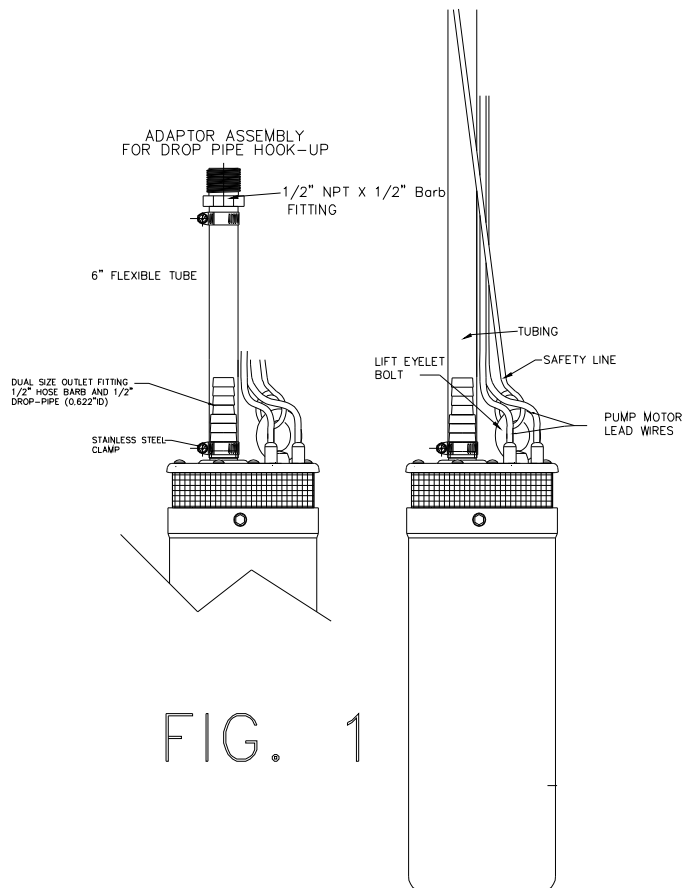
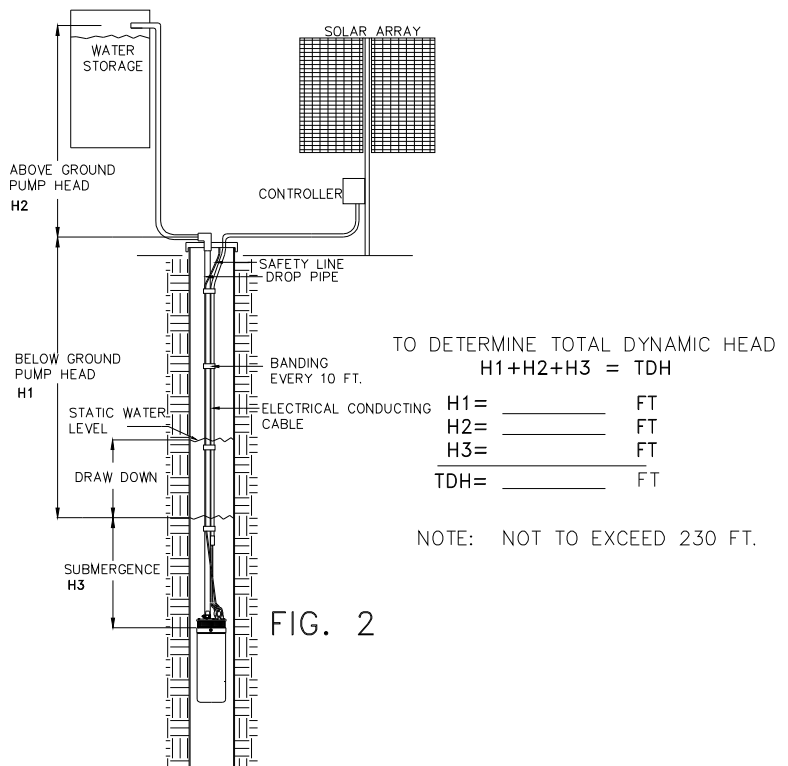

FIG. 1
FIG. 2
Discharge line The hose or pipe should be pressure rated for 150 psi. If using rigid drop pipe for the discharge line it is recommended to use a length of 6 in. flexible hose to connect to the pump outlet fitting secured with a stainless steel clamp. Then, to the other end of the short 6 in. hose connect a 1/2" NPT x 1/2" Barb fitting secured with another stainless steel clamp. If using flexible discharge tubing you may connect directly to the dual size stainless steel outlet nipple which fits 1/2" hose barb tubing (0.50 inch ID) or 1/2" Poly pipe (.062 inch ID). (see figure1). To determine total dynamic head/delivery see chart . (fig. 2)
Safety line: Install safety line (for lowering and retrieving pump) through the pump eye bolt. Band the Safety line, hose and electrical cable together with tie wraps every 10 feet to prevent damage to lines when installing the pump. (see fig. 2)
1. Lay out the assembly components on a clean ground surface and begin assembly. Connect the drop pipe or hose to the pump outlet fitting. See fig. 1.
4. Band all of the above items together as shown in fig.2.